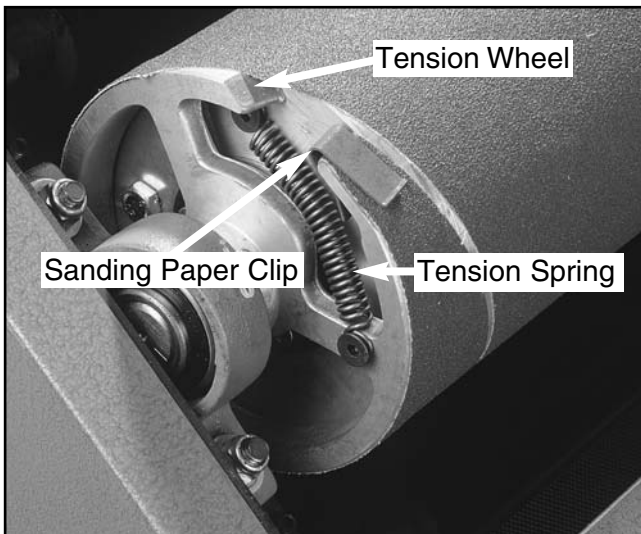

Figure 13. Sanding paper attachment.
3. Remove the tape from around the right side of the drum and the clip that attaches the sandpaper to the left side of the drum (See **Figure 13**).